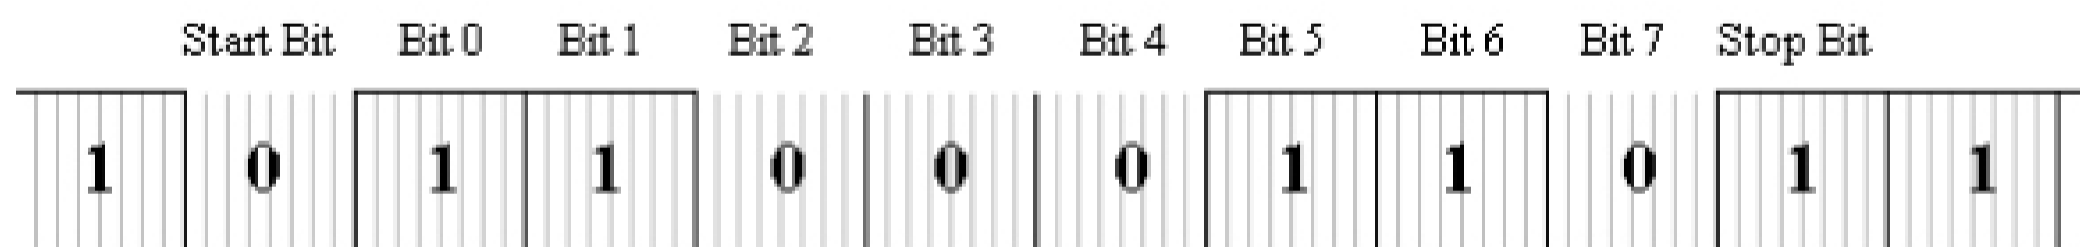

Figure 1. Serial Data
- Sample waveform for each bit 8 times (as shown in Figure 1).